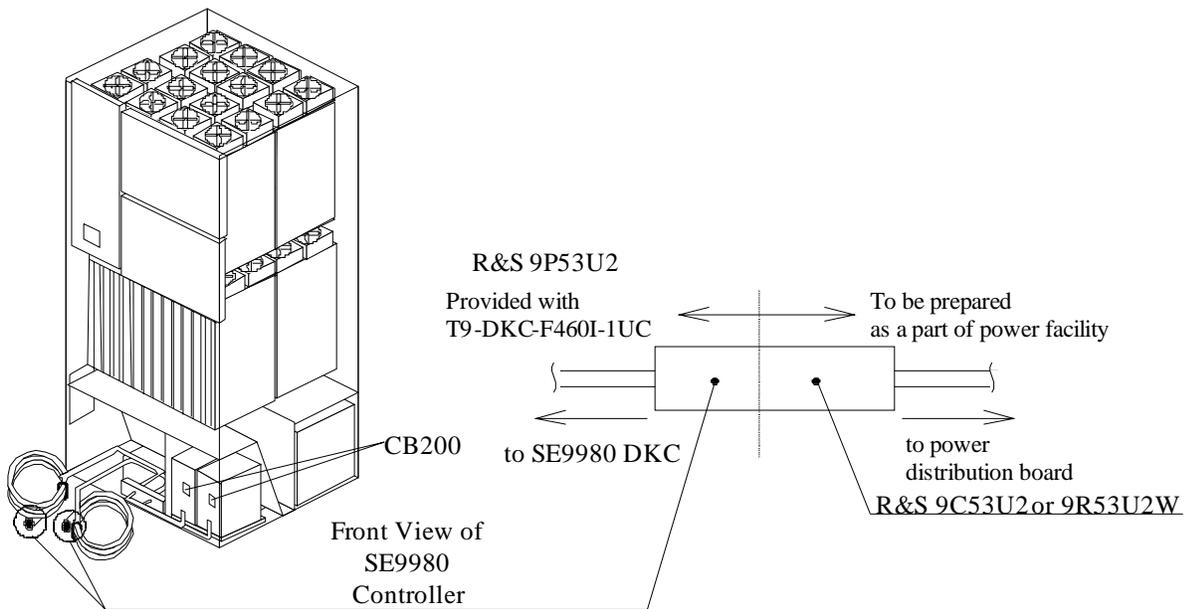

Figure 32 Power Plugs for Single-Phase Sun StorEdge 9980 Controller (USA)
- Figure 32 illustrates the power plugs for a single-phase Sun StorEdge 9980 controller (USA).